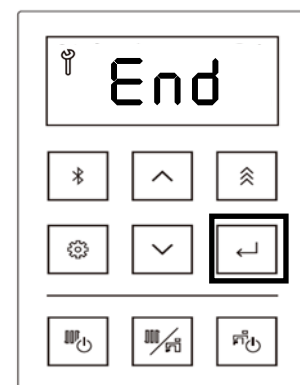

Figure 137
13. Push the Select button, and the display shows “End” (Figure 137).